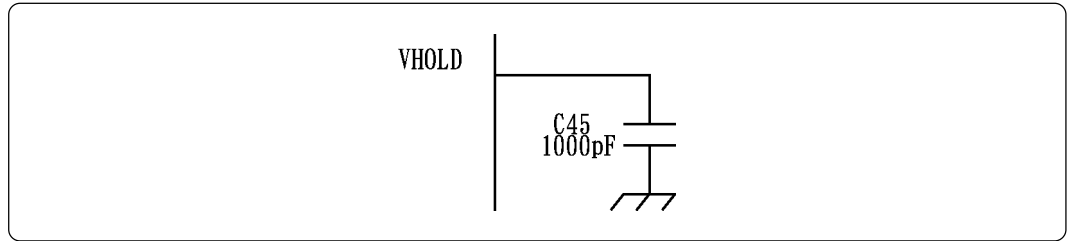

Figure 4.10 VHOLD signal circuit
(3) Figure 4.10 shows the part numbers and the constants of the parts of the signal VHOLD.